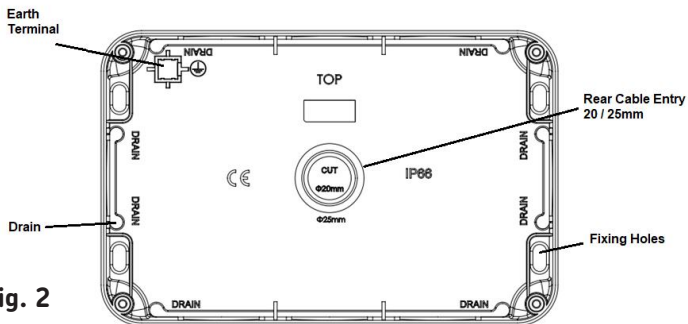

Fig. 2
- The backbox has drain hole drilling guides marked (see Fig. 2). Drilling a drain hole is advised if the unit is installed in a location subject to temperature fluctuations where build-up of condensation may occur. It is not advised if the unit will be subject to high pressure jets, as drilling a drain hole will reduce the IP rating. A 3-5mm hole should be drilled at the bottom back edge of the enclosure where marked. If wiring in conduit to the bottom entry then the drain hole should be drilled at the lowest point of the conduit run-not in the backbox